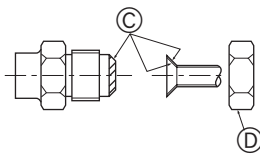

Fig. 5-6
5.5. Connecting pipes (Fig. 5-6)
- Apply thin layer of refrigerant oil to pipe and joint seating surface before tightening flare nut. ①
- Use two wrenches to tighten piping connections. ②
- Apply refrigerating machine oil over the entire flare seat surface. ③
- Use the flare nuts as follows. ④
① (Fig. 5-6)
② (Fig. 5-6)